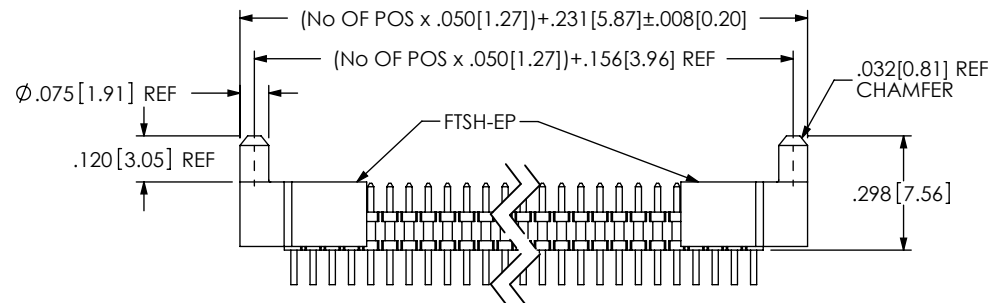

FIG 5
- EP: GUIDE POST (SEE FIG 5, SHT 2)